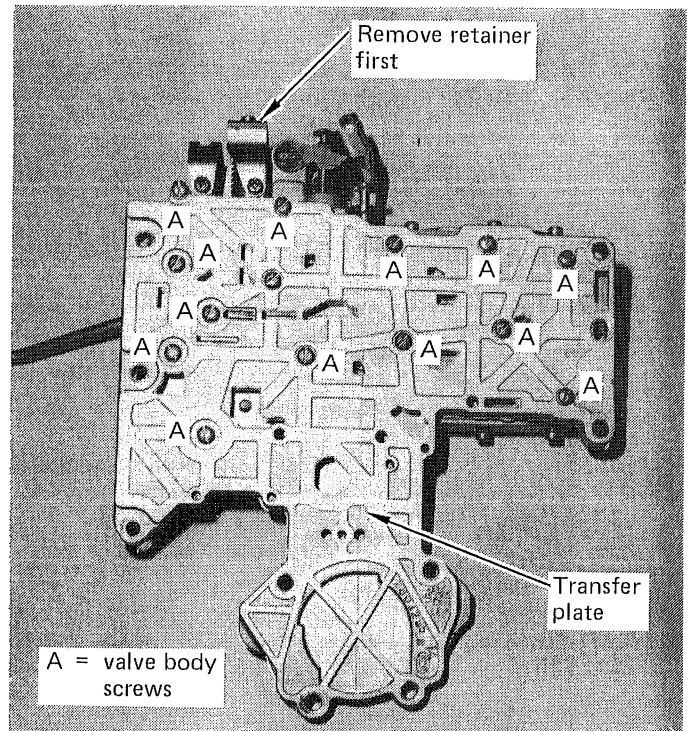
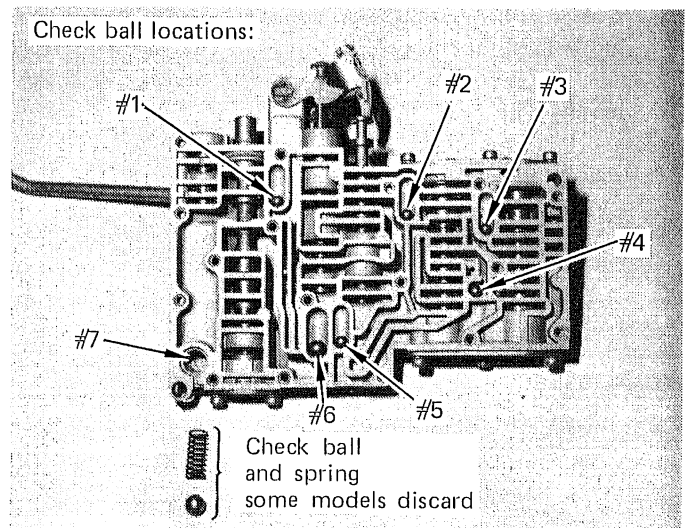

FIGURE 5
FIGURE 6
STEP 6. Set the valve body on the bench with the filter side up and the selector lever assembly in the top left corner. The valve body consists of: (1) thick casting containing the valve bores and will be referred to as the casting; (2) a thin stamped steel plate with numerous different shaped holes called a separator plate, and; (3) a thin aluminum casting that looks like a maze called a transfer plate.
STEP 7. Valve Body Disassembly: (See Fig. 5) Remove the valve body screws from transfer plate. There will be fourteen of them with either Phillips or slot heads. Hold the casting and transfer plate together with one hand while removing the last screw so you won't lose any internal parts. Carefully lift the transfer plate assembly off the casting to expose the oil passages. Turn the transfer plate assembly over so the separator plate is facing up and set it to your right. Inspect your casting for the following: (See Fig. 6)
All valve bodies: There will also be five 1/4" diameter steel check balls in locations 1 thru 5 and one 11/32" diameter steel check ball in location 6. (See Fig. 6) Remove these and place them in the tray.
STEP 12. Lay casting in front of you and install steel check balls as follows: (See Fig. 6)